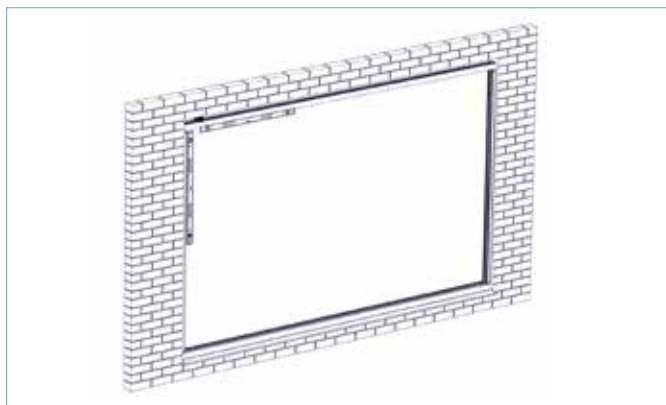

FIG 5F
▶ **5.7.** Using the string line and pinch rod or measuring staff, make sure the track does not bow inside to out, or up and down, as shown in FIG 5F.